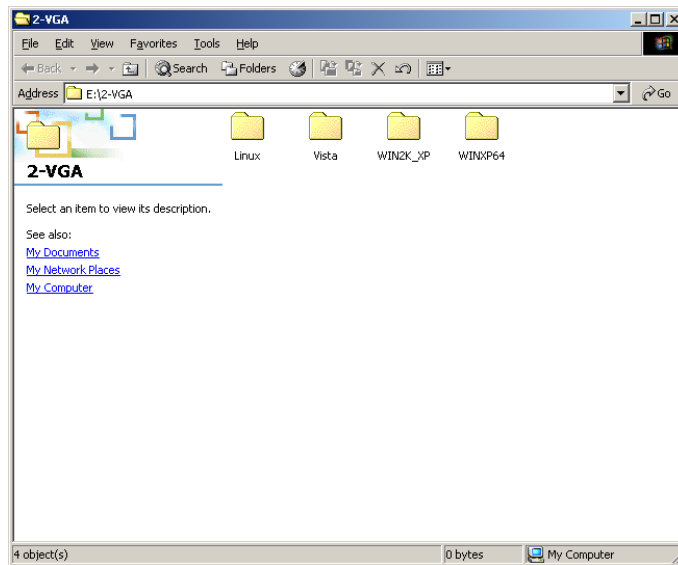

Figure 6-8: Select the Operating System
Step 2: A new window opens (**Figure 6-8**).
Step 3: Select the operating system from those shown in **Figure 6-8**.